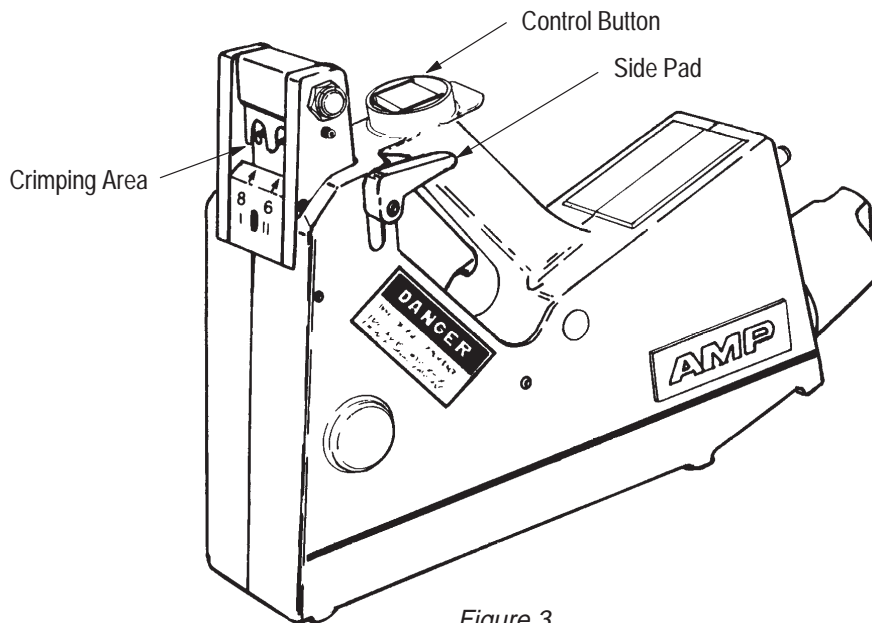

Figure 3
2.2. Functional Description (Figure 3)